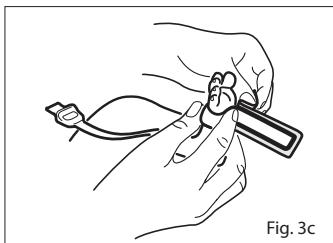

Fig. 3c
4. Refer to Fig. 3c. Wrap the adhesive/foam wrap around the lateral aspect of the foot (or hand) and ensure that the emitter window (*) aligns directly opposite of the detector. Be careful to maintain proper alignment of the detector and emitter windows while attaching adhesive/foam wrap to secure the sensor.